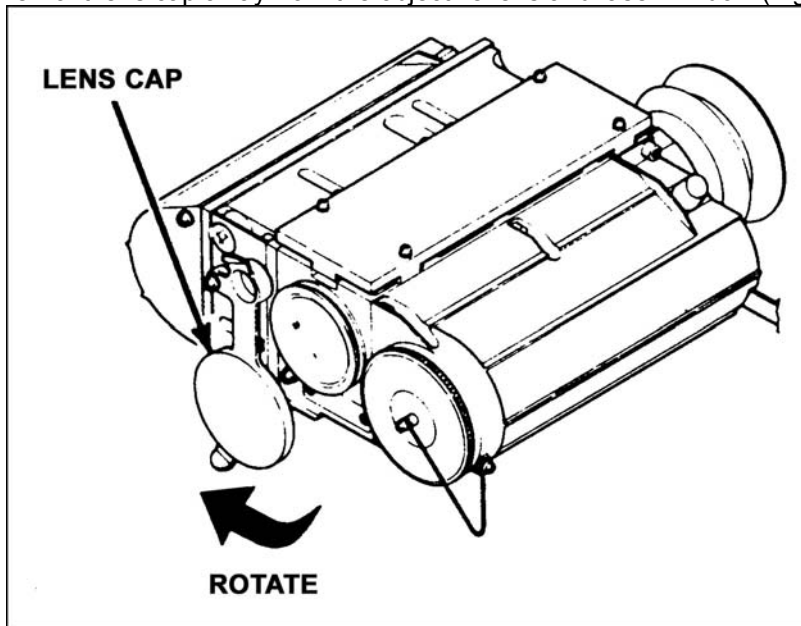

Figure 3. Lens cap.
- (1) Open battery compartment door by turning screw bail counterclockwise.
- (2) Insert battery with the small raised contact first.
- (3) Close and secure battery compartment door.
- e. Rotate the front lens cap away from the objective lens and laser window (Figure 3).